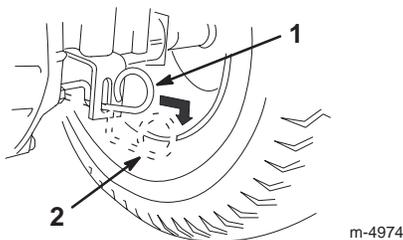

Figure 4
2. Move the drive control in the Push position (Fig. 4).
4. Move the drive control in the Operate position (Fig. 4) and drive the tractor forward and reverse for about 5 feet (1.5 m) each way. Repeat this step 3 times.